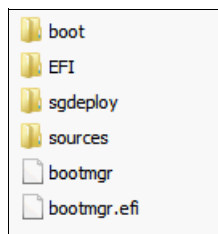

Figure 6-48 Contents of the USB key
3. Copy the contents from C:\sgshare\sgdeploy\WinPE_ScenarioOutput\Local_Win2008_R2_x64_EE\ISO to the USB key. The USB key includes the folders and files that are shown in Figure 6-48.